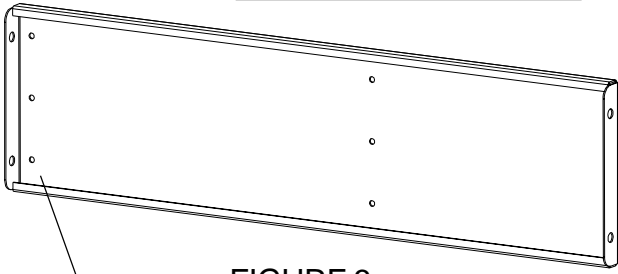

FIGURE 3
Determine which side you want your shelf to pull out from. Use **FIGURE 3** as reference. Attach the shelf support brackets to both set of holes between the legs with screws (CC) as shown in **FIGURE 4**. Then separate each slide and attach the outer section to the inside of each shelf support bracket with screws (DD) and nuts (EE) as shown in **FIGURE 5**. **NOTE:** **Attach rear screw and nut first.**